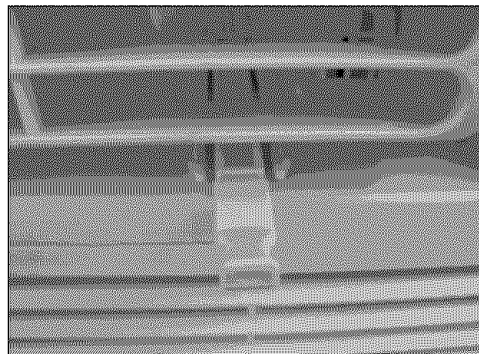

Figure 3 (VENT & EXHAUST OPEN)
3. Exchange air from the room and draws fresh air into the room – Vent and Exhaust Open (see Fig. 3)